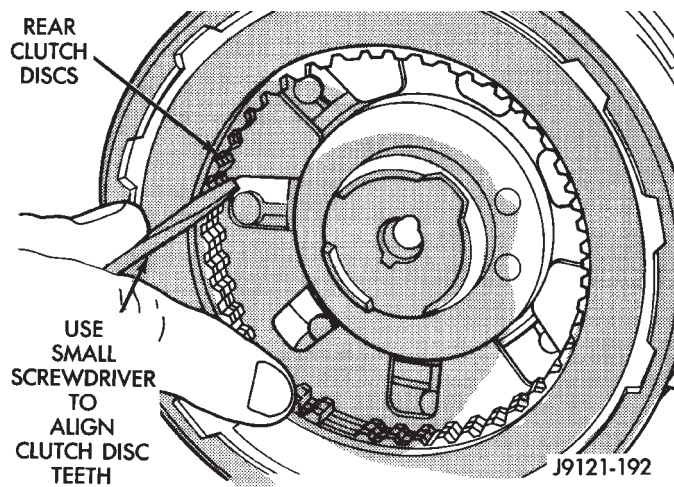

Fig. 102 Aligning Rear Clutch Disc Lugs
(29) Align drive teeth on rear clutch discs with small screwdriver (Fig. 102). This will make installation into front of planetary geartrain easier.